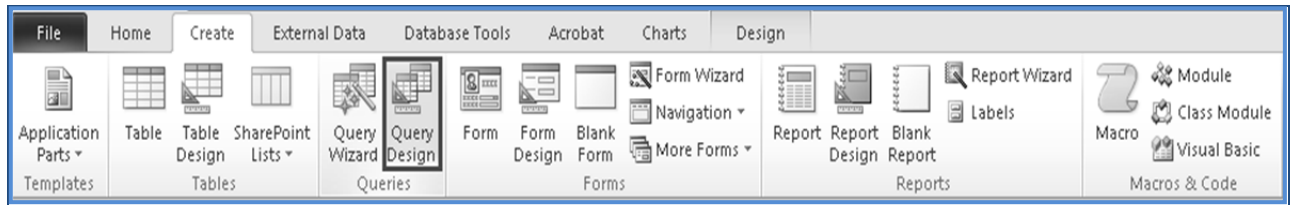

Fig. 1.2.28: Opening the Query Design window
1. Open the *Query Design* window by selecting **Query Design** from **Create -> Queries**, as indicated in Fig. 1.2.28.